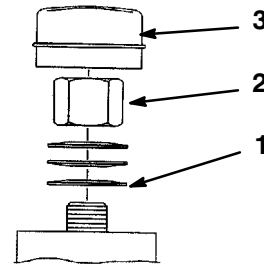

Figure 50
2. Remove dust cap from castor and tighten lock nut (Fig. 50).
3. Tighten until spring washers are flat and then back off a 1/4 turn to properly set the pre-load on the bearings (Fig. 50).
Important Make sure spring washers are installed correctly as shown in figure 50.